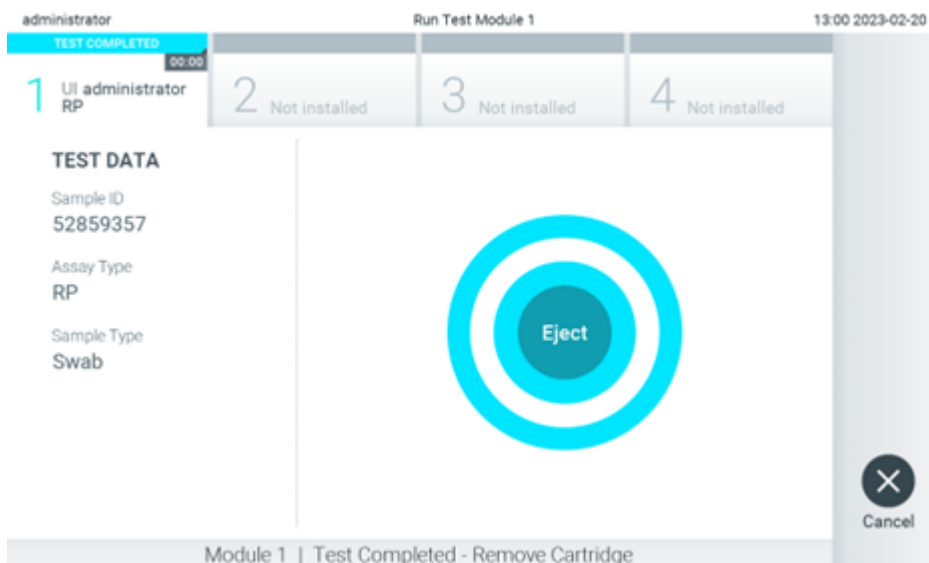

Figure 29. Eject screen display.
10. After the test run is completed, the Eject screen will appear (Figure 29).